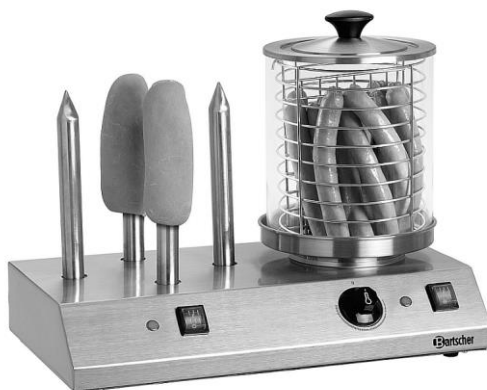

Fig. 3
6. Place the prepared sausages in the basket (Fig. 3).
3. Carefully put suitable hot-dog buns on the heated-up toasting rods (Fig. 3).